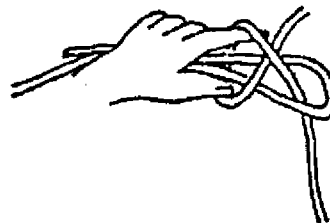

Fig. 3-11-3
- c. Wrap this working end around your left forefinger, behind the doubled-back rope and around your left thumb, and then under itself. (Fig. 3-11-3)